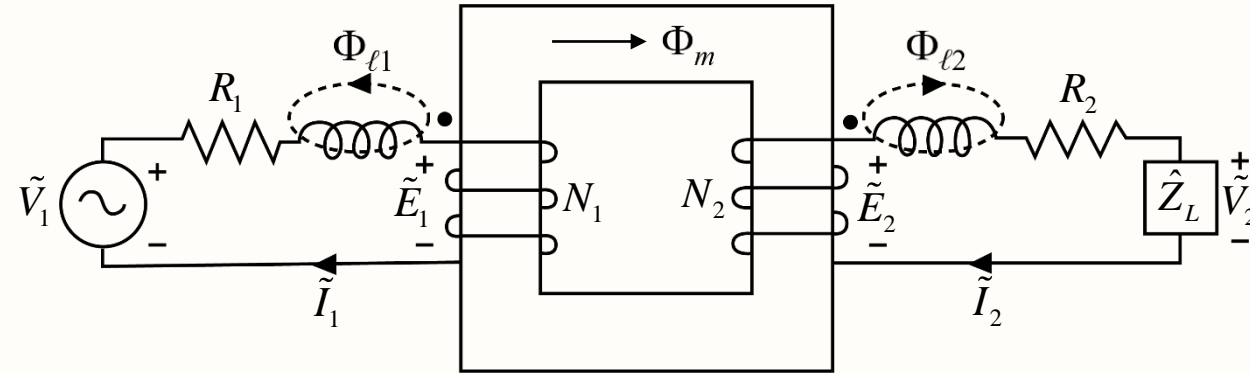
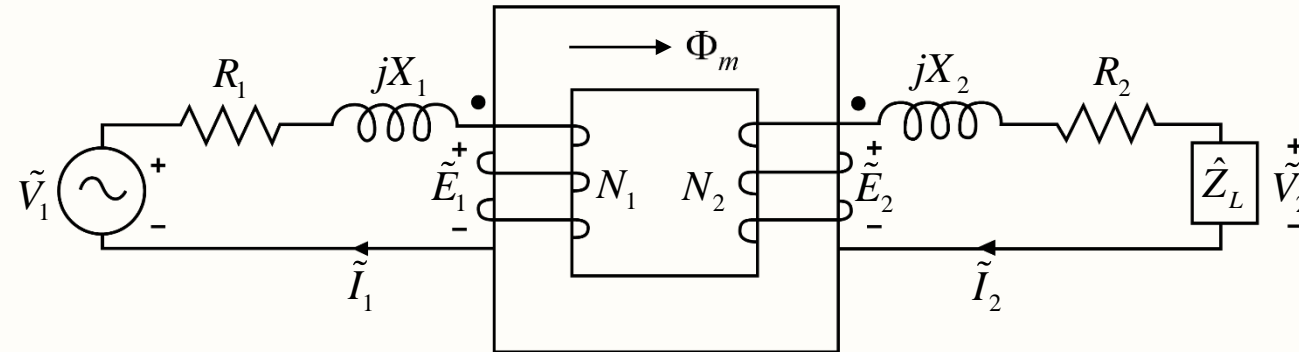

Fig. 11. Hypothetical windings showing mutual and leakage flux linkages separately.
Fig. 12. A non-ideal transformer with winding resistances and leakage reactances.
- **Solution:** Each winding can be artificially represented by two coils, one producing the mutual flux and the other producing the leakage flux as shown in Fig. 11. The latter is represented outside the transformer proper. The coils producing the leakage flux can then be represented by approximate leakage inductances or leakage reactances as shown in Fig. 12.